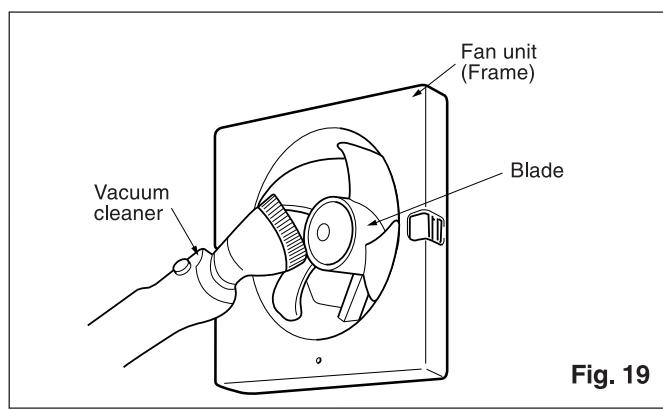

Fig. 19
3. Remove dust and dirt from the fan blades and body using a vacuum cleaner. (Fig. 19)